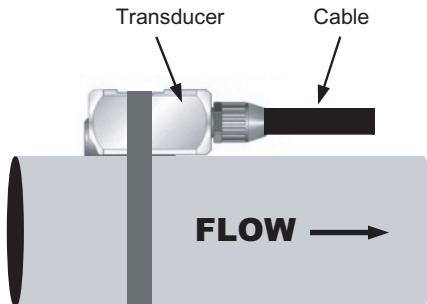

Figure 2.2
3. Mount the transducer in the orientation shown in Figure 2.2. The flow meter will read flow in both directions, but will be most accurate if the cable is mounted in the orientation shown—pointing in the primary flow direction.
The transducer center line is designed to mount parallel to the pipe center line. The groove in the transducer body will allow the 1/2" stainless steel strap that was enclosed with the meter to align the transducer properly on the pipe. **DO NOT** mount the transducer on bends, elbows or fittings. Every effort should be made to mount the transducer parallel to the axis of the pipe as well as flat on the pipe. The transducer cable should run in the "down-stream" direction of liquid flow. See **Figure 2.2**.